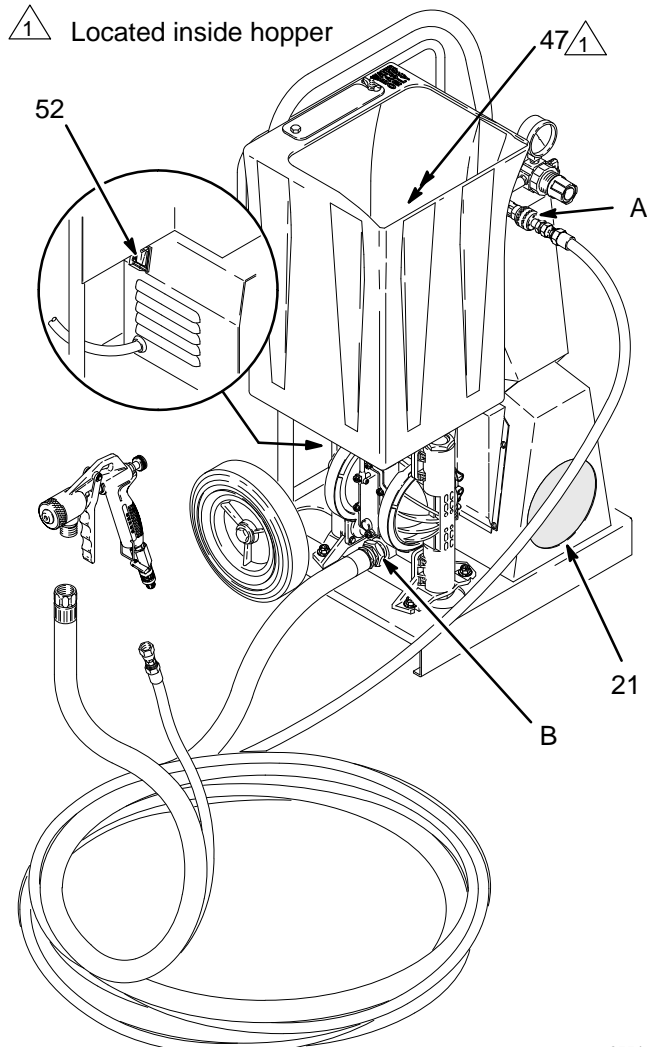

Fig. 2
1. Be sure the air hose is connected at A so there is no load on the compressor. See Fig. 2.
2. Turn on the switch (52). Run the system for 15 minutes. Shut off the switch. See Fig. 2.
To reduce the risk of serious bodily injury due to the system restarting unexpectedly, always turn off the system at the ON/OFF switch (52) if the motor shuts down. See Fig. 2.